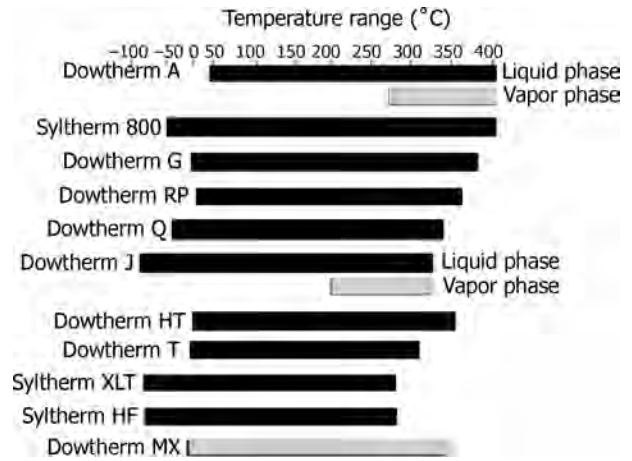

FIGURE 9.18 Dowtherm and Syltherm heat transfer fluids.
- Dowtherm synthetic organic and Syltherm silicone heat transfer fluids (See Figure 9.18).